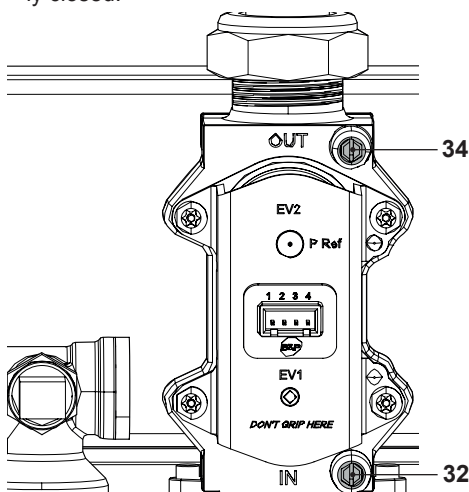

Fig. 7.14
- With the boiler switched on at full rate (maximum output power), check the supply pressure by using the 32 point in Fig. 7.14 and compare the value with that reported on the Gas supply pressure table (minimum inlet pressure) in section "Technical data ANTARES 30S (M300V.30 SR)" on pag. 34.
- Ensure the test nipple 32 in Fig. 7.14 is firmly closed.